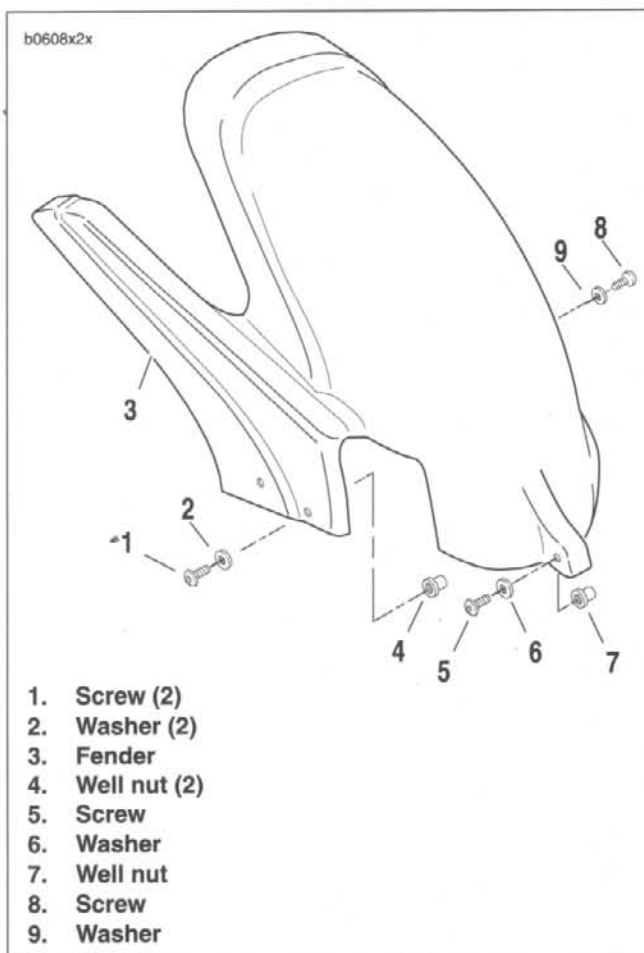

Figure 2-153. Rear Fender
2. See Figure 2-153. Remove two screws (1) and washers (2) from right side well nuts (4).
3. Remove screw (5) and washer (6) from front well nut (7).
4. Remove screw (8) washer (9) and clamp from left side.
5. Pull fender (3) over rear tire.
3. See Figure 2-153. Install hardware in reverse order. Apply LOCTITE THREADLOCKER 243 (blue) to all screws.